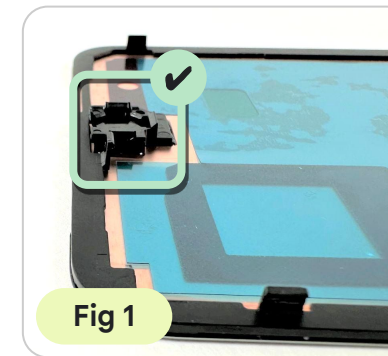

Fig 1
- Make sure **FCAM release liner** does not interfere with **CG Trim** (Fig 1).
- Make sure the **Adhesive** is completely seated into the **5 Snaps** (Fig 1).